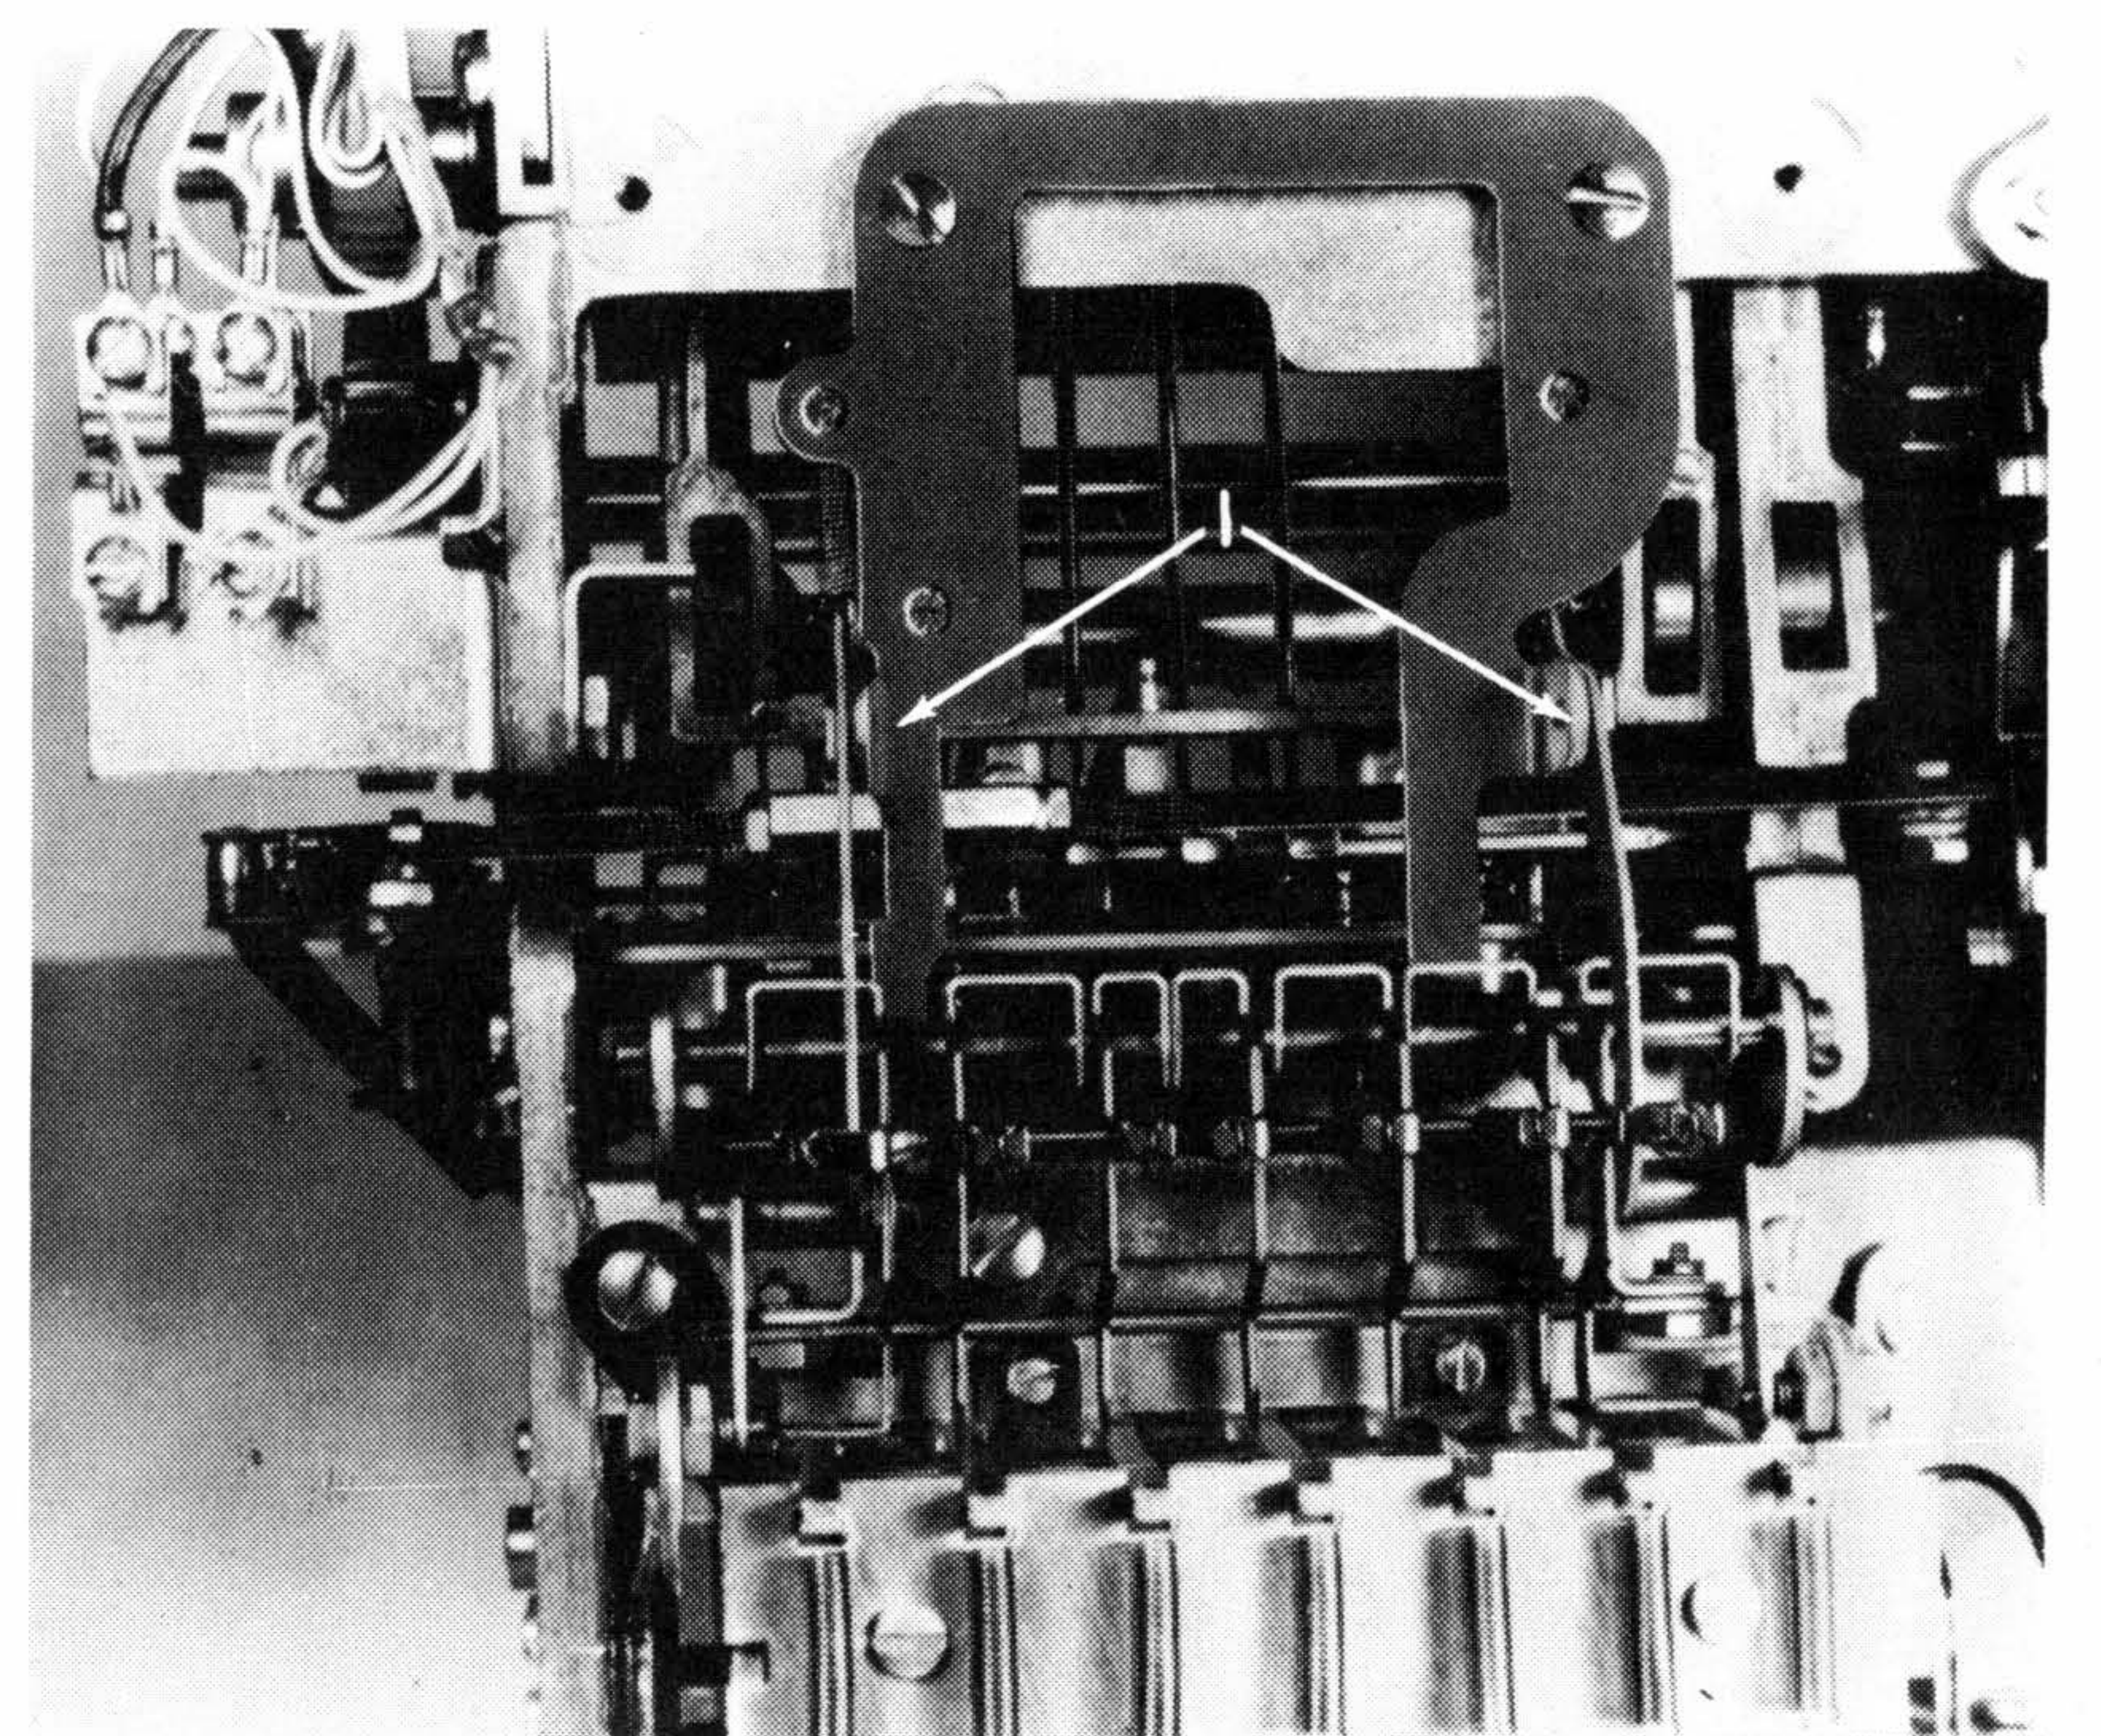

Figure 3. Cycle Clutch and Cycle Shaft Removal
8. Remove the two pivot screws (#1, Figure 3).